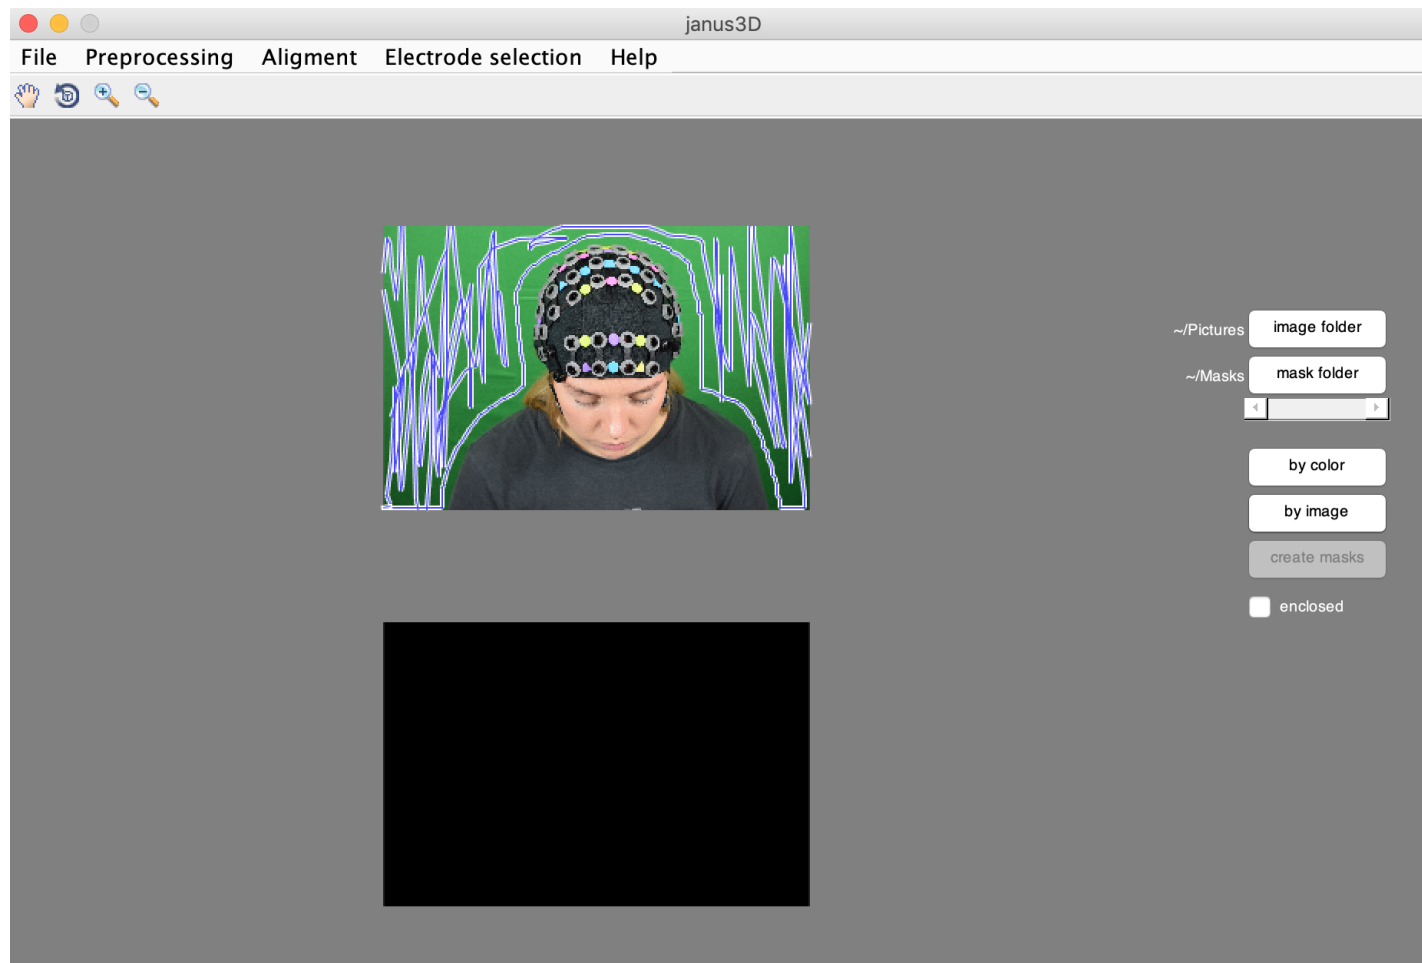

Figure 9. Sampling the green screen in janus3D
4. Click “by color” and select the green screen in the photo by drawing around the subject and drawing back to the point where you started. The idea is to sample as much of the green screen as possible (Figure 9).